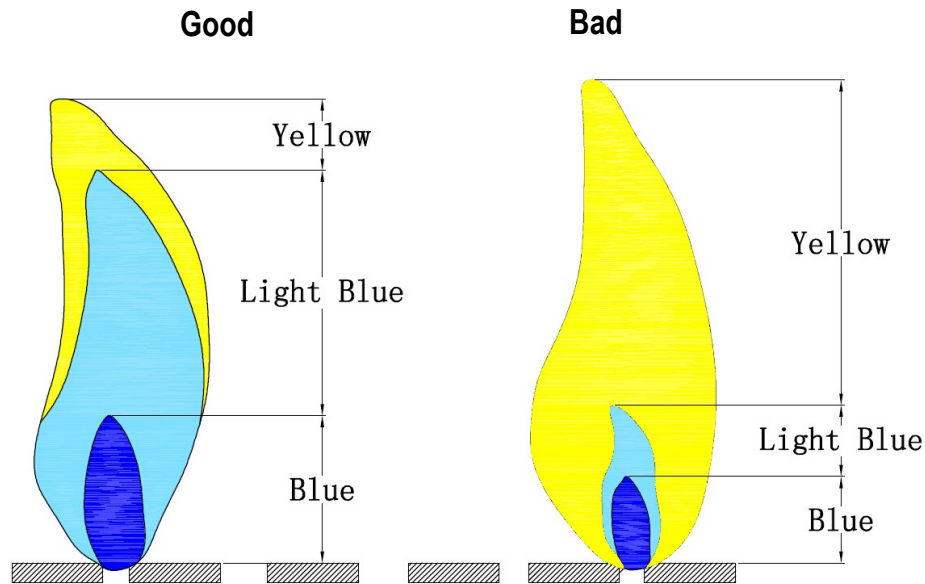

Figure 20
**Observe Flame Height When Lit:** Flame should be a blue / yellow color between 1~2 in. height (see Figure 20).